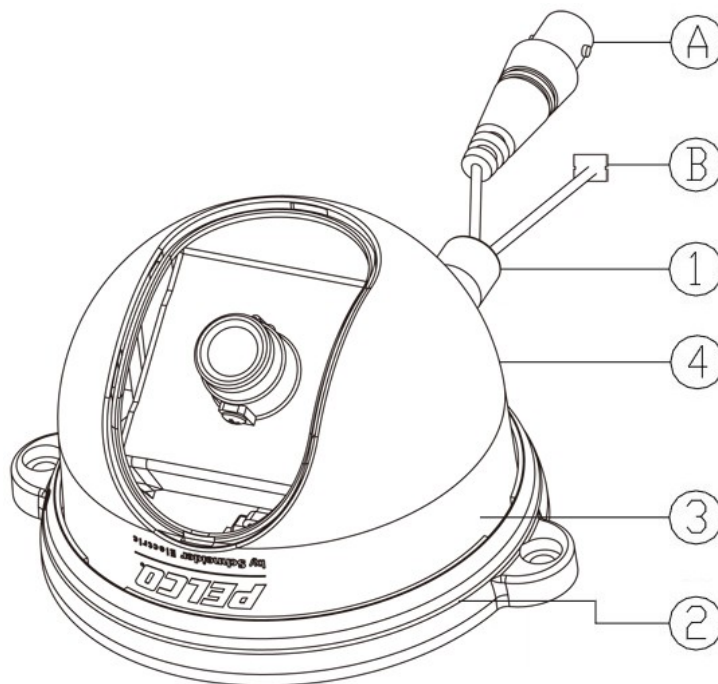

Figure 1-3 FD1-F3-4(X)/FD1-F4-4(X)
2.2(A) Connecting the Wiring
Refer to Figure 1-3 to connect the video connect output connector (A) and DC12V power connector (B).